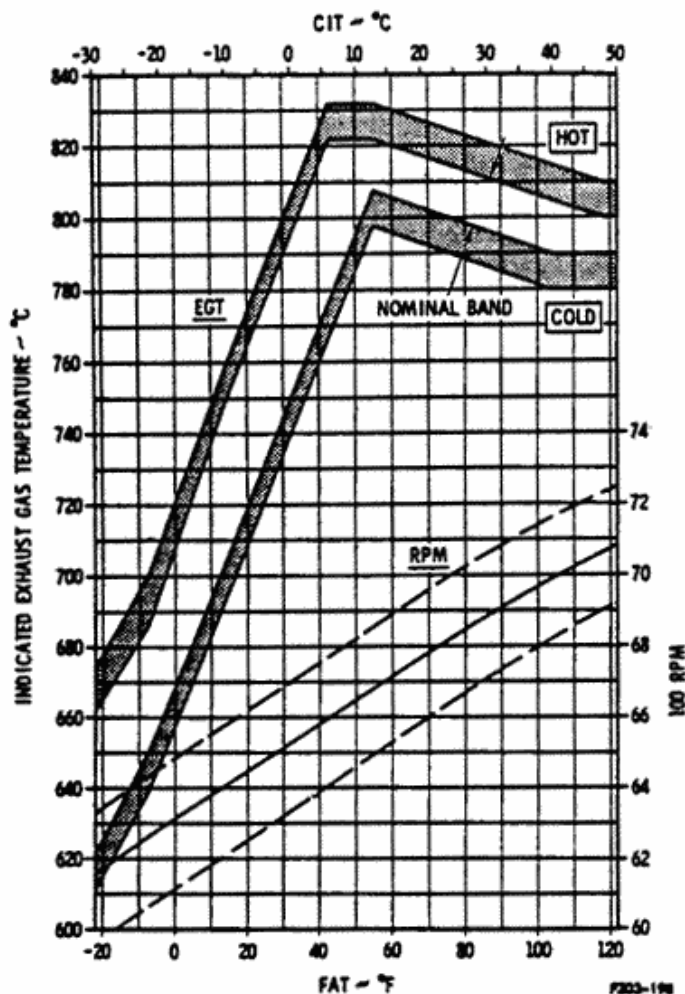

Figure 2-4
Check automatic EGT trims to within the nominal band shown by Figure 2-4.
If Auto EGT is unusable, trim manually as shown in Figure 2-4.
- j. RPM - Check engine speed vs the schedule shown by Figure 2-4.